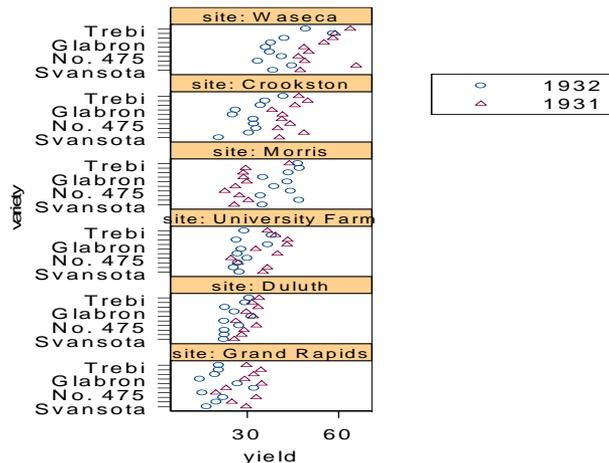

Figure 3.42: Formatted Trellis plot of barley yields for 1931 and 1932.
3. Click **OK**. Notice that the legend has been updated to reflect the new symbol styles. Your final Trellis plot should look similar to the one shown in Figure 3.42.
Now examine your graph to find the long-undetected discrepancy. It appears in the Morris panel. For all other sites, 1931 produced a significantly higher overall yield than 1932. The reverse is true at Morris. But most importantly, the amount by which 1932 exceeds 1931 at Morris is similar to the amounts by which 1931 exceeds 1932 at the other sites. Either an extraordinary natural event, such as disease or a local weather anomaly, produced a strange coincidence, or the years for Morris were inadvertently reversed. More Trellis graphics, a statistical modeling of the data, and some background checks on the experiment led to the conclusion that the data are in error. But it was a Trellis graphic, such as that created in Figure 3.42, that provided the “Aha!” that led to the conclusion.